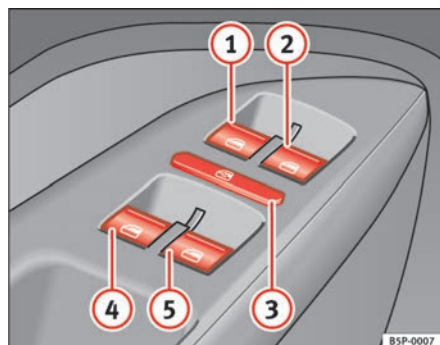

Fig. 68 Detail of driver door: controls for the front and rear windows
The buttons ⇒ page 106, fig. 68 ① and ② have two levels for opening the window and two for closing it. This makes it easier to open or close windows to the desired position.